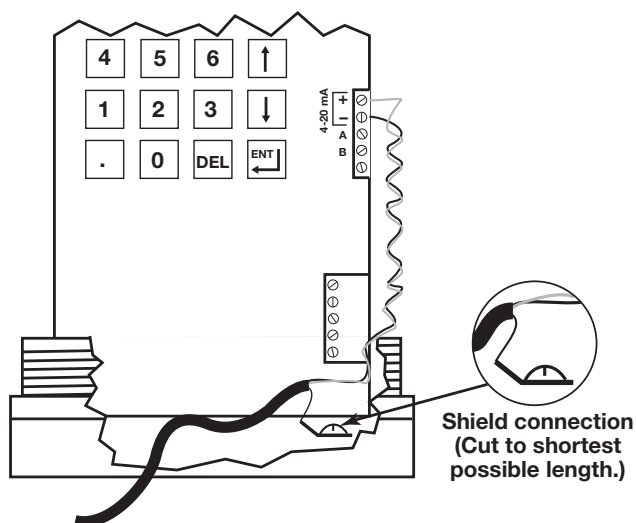

Figure 7
2. Cut the shield wire down just short enough to crimp a female disconnect (Sta-Kon®) connector. Crimp the connector on and push this over the male connector located at the base of the housing as shown in Figure 7.
3. The + and – wires should then be twisted together and run up to the 4–20 mA terminal block located to the right of the 16-button keypad as shown in Figure 7.
3. The “A” and “B” wires should then be twisted together and run up to the RS-485 terminal block located to the right of the 16-button keypad as shown in Figure 7.